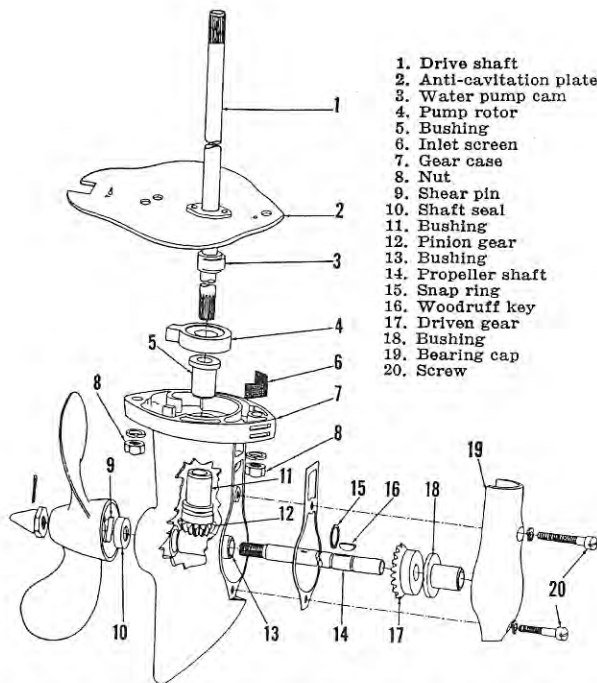

Fig. Mc13—Exploded view of direct drive gearcase, water pump, and associated parts. For 1963 gear shift models, refer to Fig. Mc15.
Use Figs. Mc13 and Mc14 as a guide when overhauling the lower unit. To renew the propeller shaft (14—Fig. Mc13), gears (17 or 12), bushings (13 or 18) or seal (10), first remove the propeller, remove drive pin (9), and unbolt and remove gearcase cap (19). Gear unit should be drained before disassembly. After gearcase cap has been removed, component parts can be withdrawn. Propeller shaft gear (17) is a press fit on shaft and should be removed with an arbor press. Bushings (13 and 18) are pre-sized and will not require reaming if carefully installed.